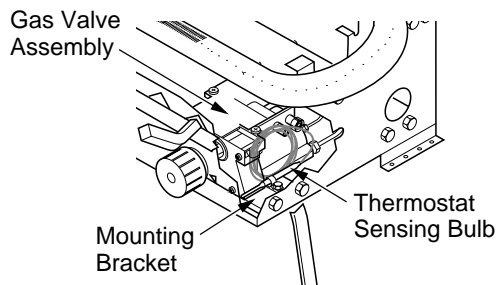

Figure 43 - Location of Gas Valve Assembly and Thermostat Sensing Bulb
1. Remove logs. Locate the gas valve assembly and thermostat sensing bulb (see Figure 43).